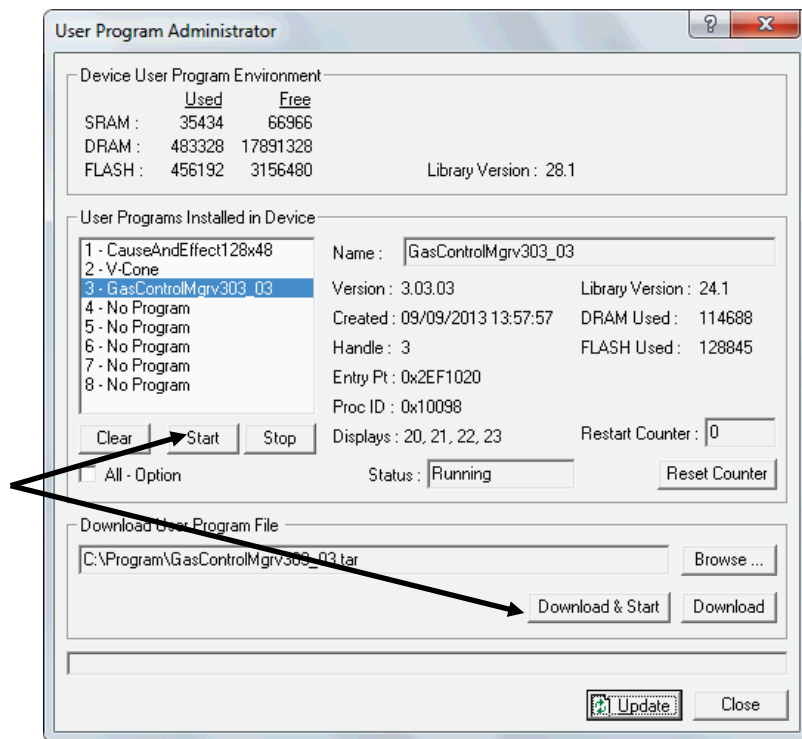

Figure 8. User Program Administrator
9. Click **OK**. The User Program Administrator screen displays (see Figure 8). Note that: